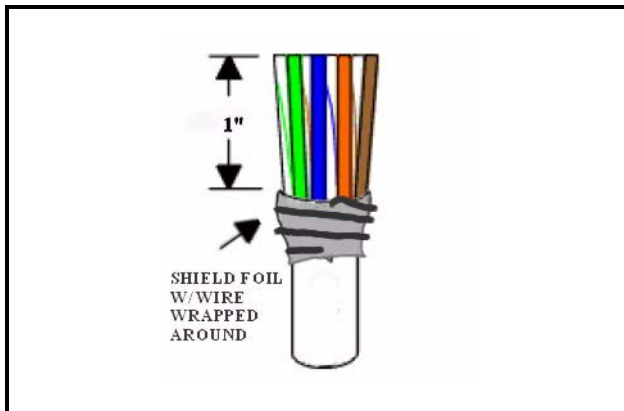

Figure 4-1 - CAT5e Shielded Cable w/ 1" Stripped Jacket
- Carefully strip the outer sheath insulation back 1". Roll back the foil shield insulation and wrap the drain wire around the foil (*Figure 4-1*). Do not remove any insulation from the conductors.